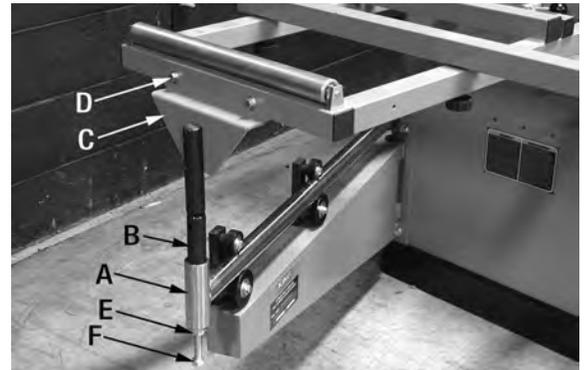

FIGURE 35
3. The outrigger table gets supported by a swing arm bracket (A) Fig.35. Slide the post (B) into the hole at the end of the swing arm. Secure the upper bracket (C) to the edge of the outrigger table as shown using 2 hex. bolts, spring washers and washers (D).
4. The outrigger table must be level, place a bubble level on the outrigger table and verify the adjustment. If an adjustment is needed, loosen hex. nut (E) and adjust the height of the large bolt (F) until the table is set perfectly level. Retighten hex. nut (E).